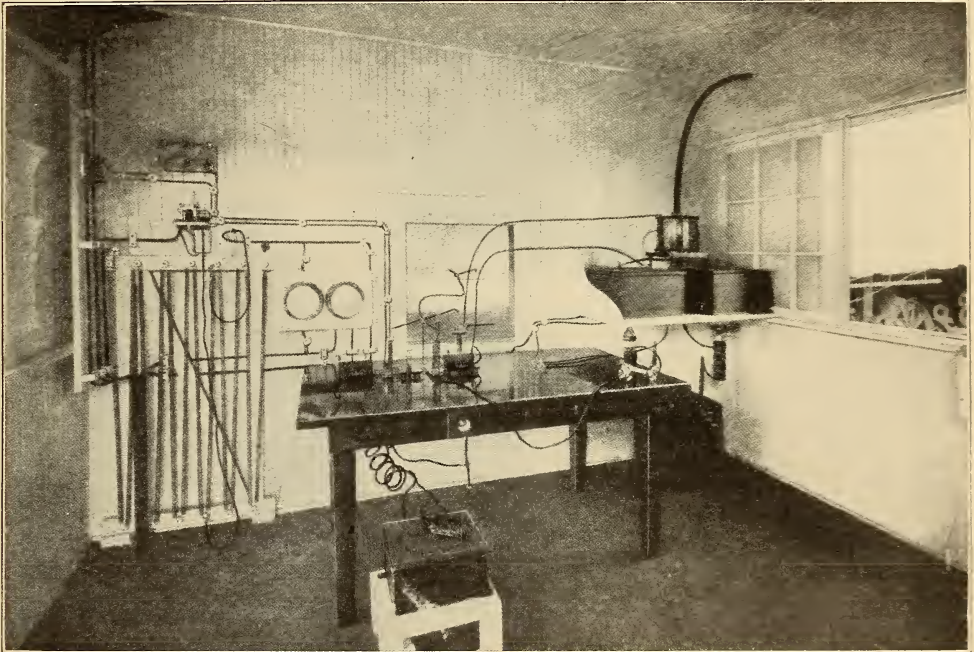

FIG. 14. FESSENDEN WIRELESS SYSTEM.
As will be noted the ground, instead of being connected onto the lower part of the inductance coil, as in usual cases, is placed behind the condenser (C). In Fig. 14 is shown the disposition and arrangement of the various parts of the apparatus.